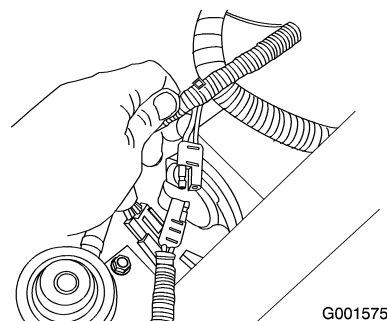

Figure 5
2. Connect the light kit wire harness connector to a connector on the main wire harness (Figure 5).